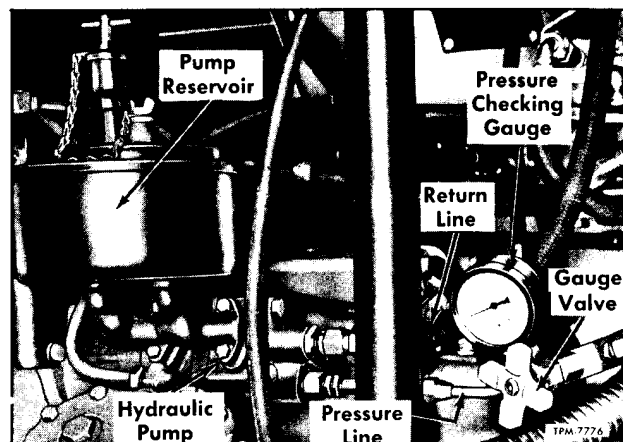

Figure 5—Checking Pump Hydraulic Pressure
2. Connect 0 to 1000 psi pressure checking gauge (J-5631-1) (fig. 5) between the pump pressure port and pressure hose. Leave valve in pressure gauge open.